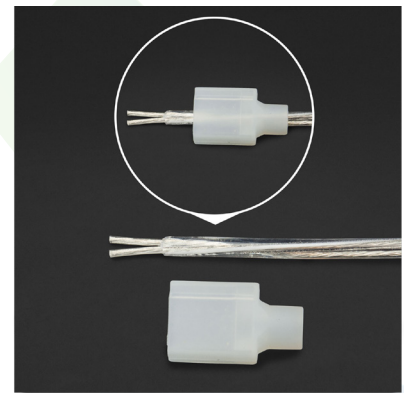

Figure 4.
Step 4 is one of the most important steps in the guide as it is the easiest to forget. Slide the **Cable Endcap** to the cable wire before proceeding to the next step (see figure 4). Failure to do this step will cause you to re-do the soldering process.